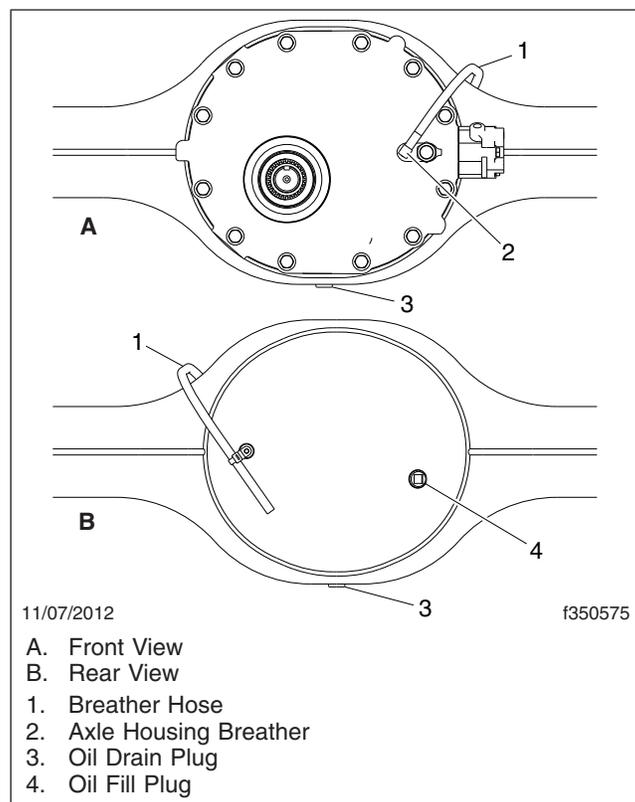
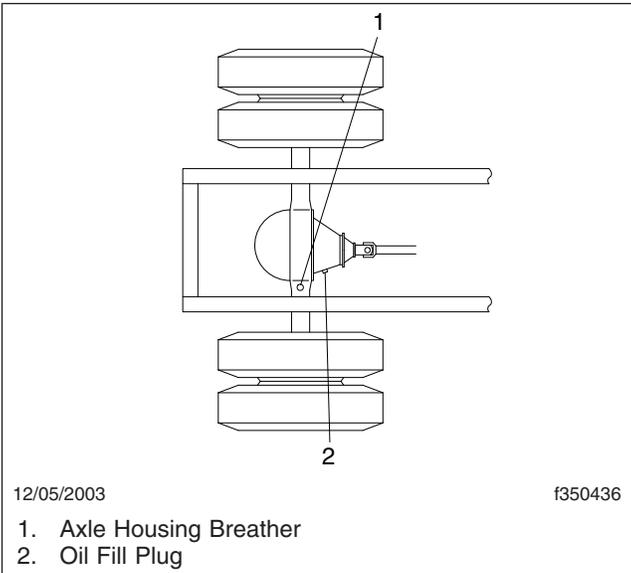

Fig. 1, Component Locations, Detroit Axles
Fig. 2, Component Locations, Meritor Axles
3. Clean the fill plug and the area surrounding the fill plug on the side of the axle carrier. Remove the plug. Check lubricant level when the axle is cold, or near room temperature. See Fig. 1 and Fig. 2.
The axle housing breather must remain clean. See Fig. 1 and Fig. 2. When the axle lubricant level is checked, check that the axle breather is open. Check more often under poor operating conditions. If the breather is plugged, clean it or replace it as needed.